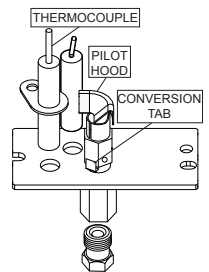

Fig. 3
- 7. Loosen the pilot hood until the conversion tab slides easily (**Fig 3**). Slide the tab to the fuel desired. **NOTE: The tab is marked with NG or P.** Tighten the pilot hood back to original position.